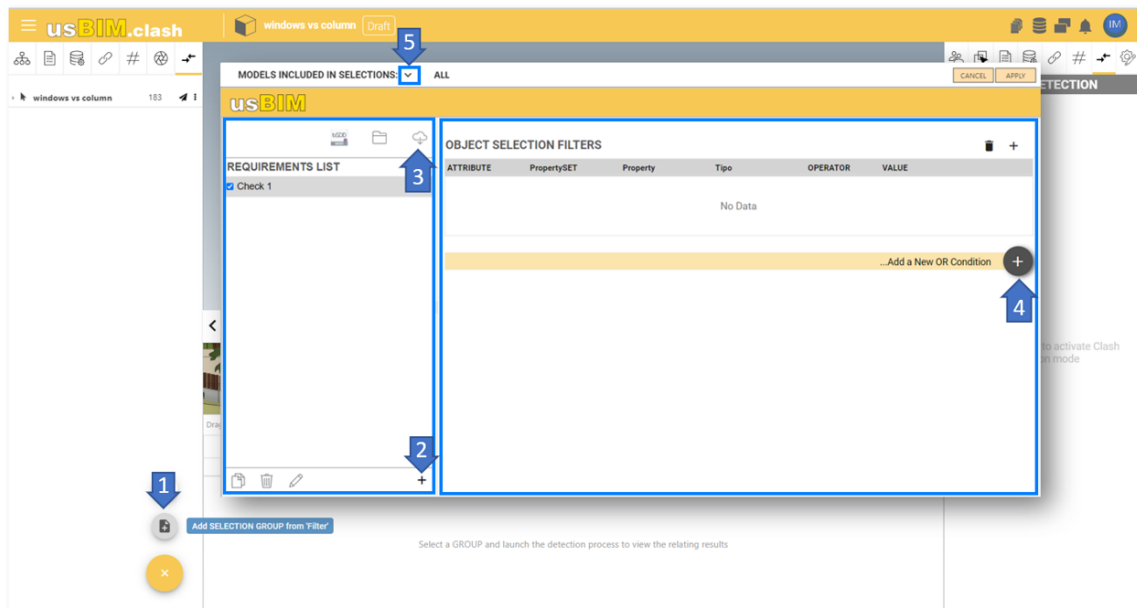

Figure 8. Group from Filter
You also have the option to create Selection Groups from "Filter" (arrow 1 Figure 8). After entering the name of the group, a new window will open that is divided into three sections:
- Requirements List: allows you to set the number of actions to be taken on the models to be verified. You can add more checks to the list of requirements by clicking the "+" button (arrow 2 Figure 8). You can import/export template lists (arrow 3 Figure 8). The checks can be selected/deselected so as to leave freedom of choice to the user in the different scenarios, in the case in which multiple checks are selected, the logical operator AND comes into play (implies the satisfaction of both propositions)
You can characterize selection filters by using the OR logical operator (satisfying at least one of the two operations). (arrow 4 Figure 8)
- Templates included in selections: (arrow 5 Figure 8) You can indicate which templates to apply the configured filtering to.